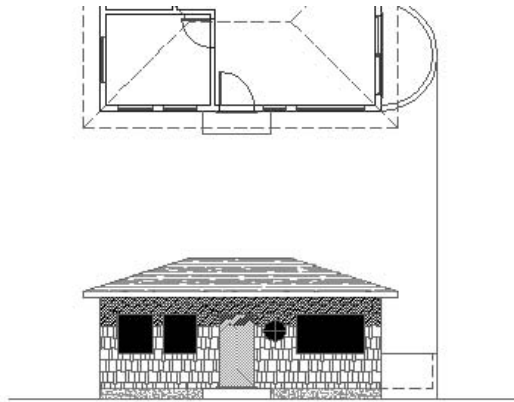

FIGURE 9.11: A line is dropped from the balcony in the floor plan to the elevation.
1. Make the Hatch-elev-brown current. Use Realtime Zoom and Zoom Window to arrange a view similar to the one in Figure 9.11.